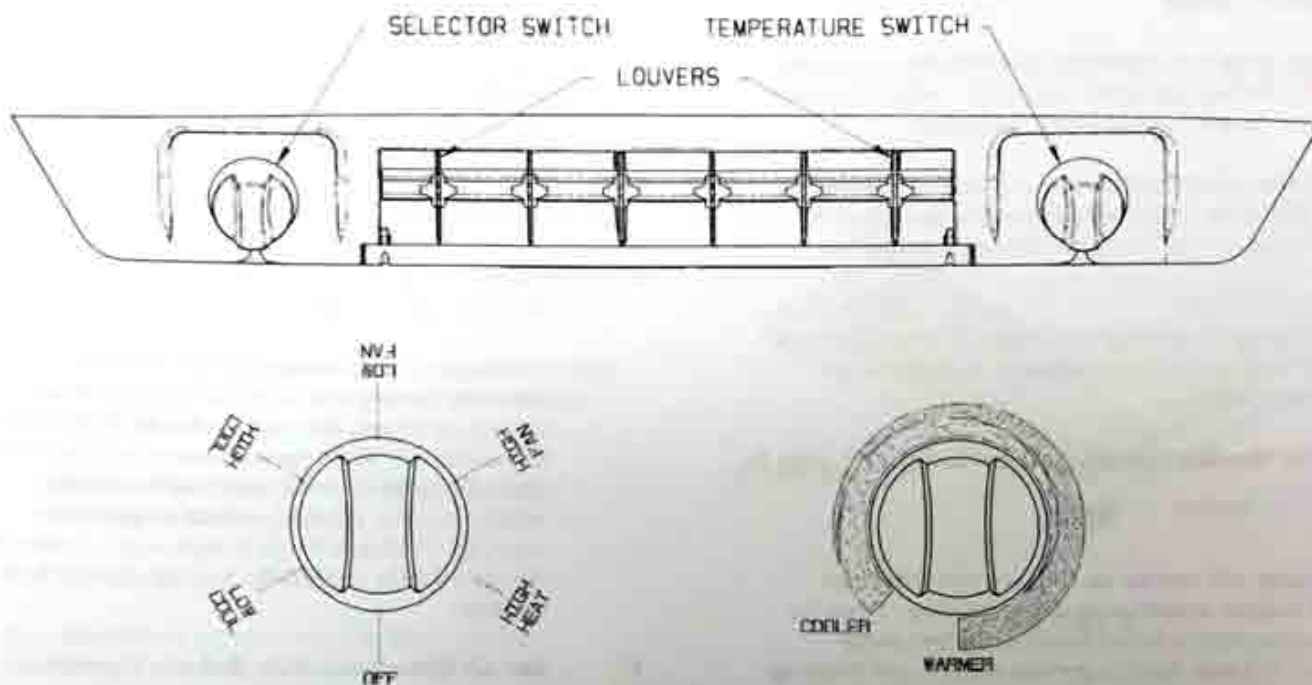

FIGURE 1
A. The Selector Switch - The selector switch determines which mode of operation the heat pump will be in. By rotating the selector switch, the operator can obtain any system function desired. System functions vary depending upon options of both the roof top unit and ceiling assembly. Figure 1 shows selector switch location and lists all available functions by model.
- B. The Thermostat (temperature control) - The thermostat regulates the "ON" and "OFF" temperature setting at which the compressor will operate (See Figure 1).
**I. For Cooling Operation (Refer to Figure 1, page 3).**
### IV. For Heating Operation (Refer to Figure 1, page 3).
### V. For Air Circulation Only (Refer to Figure 1, page 3).